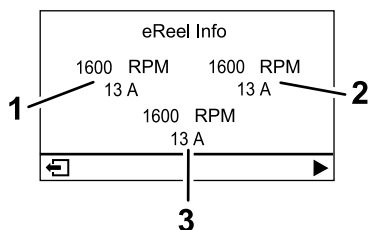

Figure 26
- **eReel motor screen (Figure 26):** shows the speed and current of each cutting-unit motor.